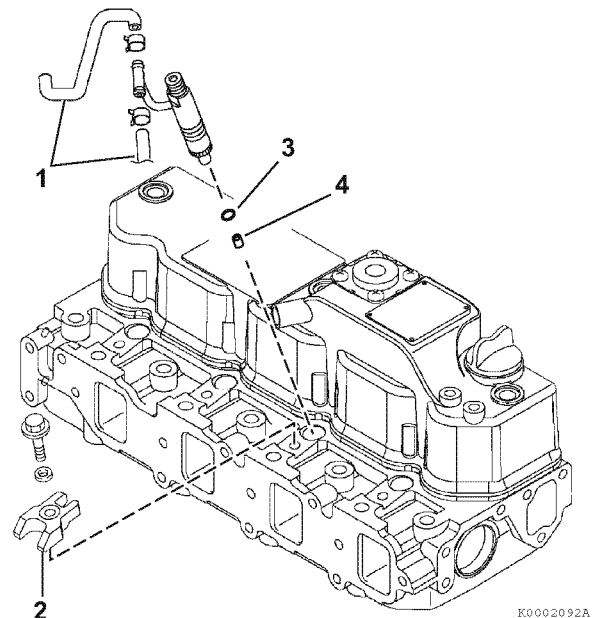

Figure 7-61
1. Reinsert a new nozzle seat (4, **Figure 7-61**) and nozzle protector (3, **Figure 7-61**) in the cylinder head for each injector.
4. Reinstall the fuel injector retainers (2, **Figure 7-61**) and torque the retaining bolts to specification.
5. Reinstall the fuel return hoses (1, **Figure 7-61**), one on each side of each injector.